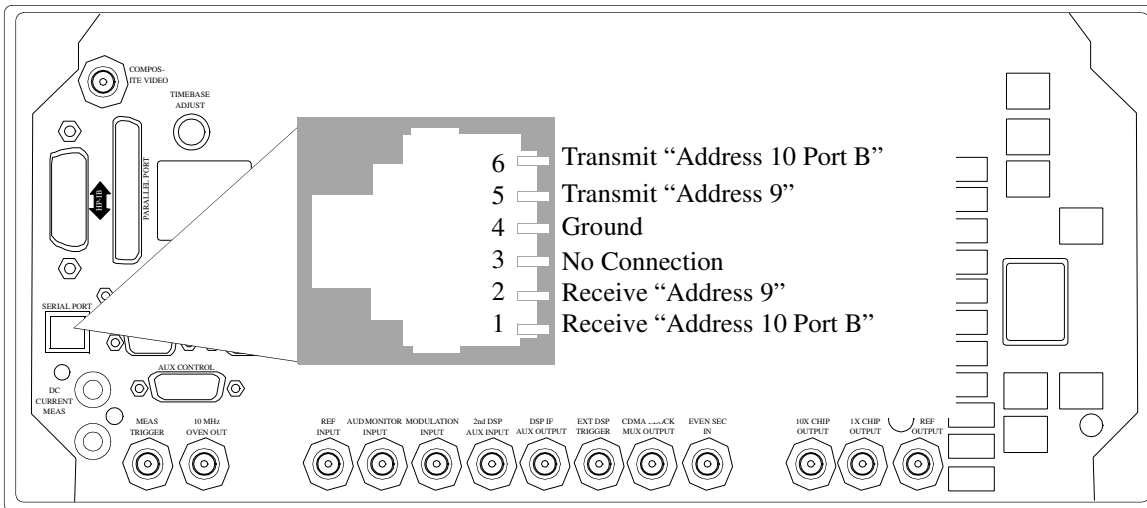

Figure 8 Serial Port Pinout
- RJ-11 (see figure 8 on page 104)
- The IBASIC controller sends and receives data to the serial ports using address **9** for the primary port (A), and address **10** for the secondary port (B). For example, to enter data from the primary serial port (A) into a program variable named SDATA, you could use the command: